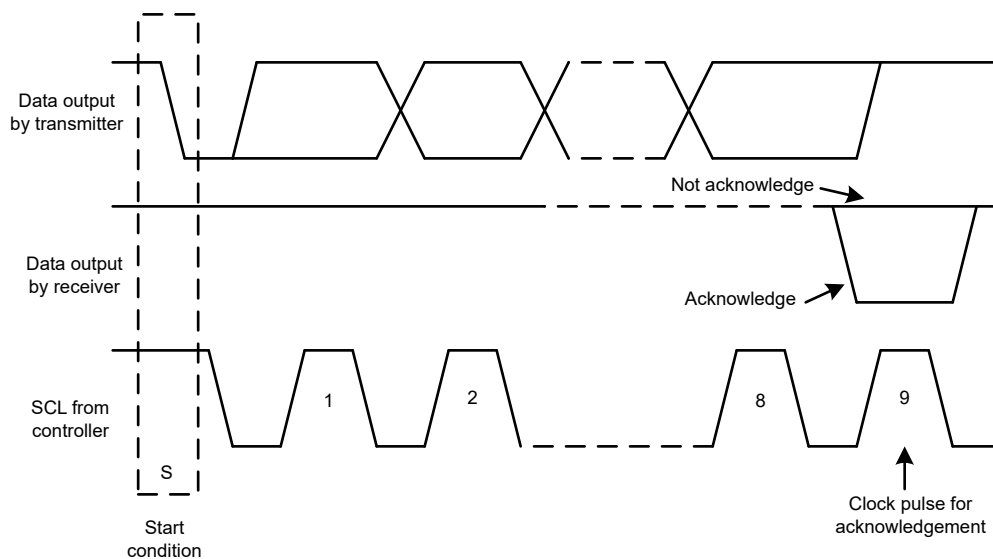
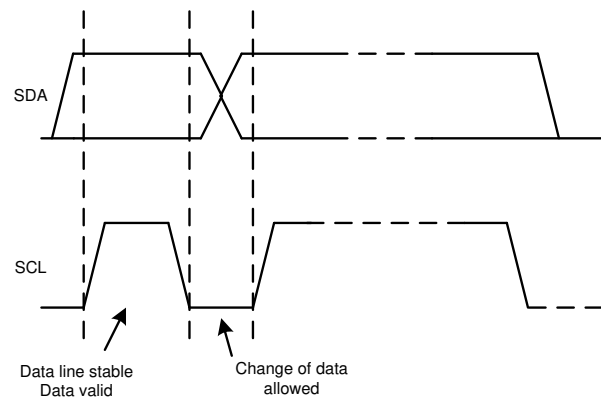

Figure 7-18. Acknowledge and Not Acknowledge on the I²C Bus
图 7-20. Bit Transfer on the I²C Bus
Other than specific timing signals, the I²C interface works with serial bytes. At the end of each byte, a ninth clock cycle generates and detects an acknowledge signal. An acknowledge is when the SDA line is pulled low during the high period of the ninth clock cycle. Figure 7-18 depicts a not-acknowledge, when the SDA line is left high during the high period of the ninth clock cycle.
2. The controller then generates the SCL pulses, and transmits the 7-bit address and the read/write direction bit (R/\overline{W}) on the SDA line. During all transmissions, the controller makes sure that data are valid. 图 7-20 shows that a valid data condition requires the SDA line to be stable during the entire high period of the clock pulse. All devices recognize the address sent by the controller and compare the address to the respective internal fixed address. Only the target device with a matching address generates an acknowledge by pulling the SDA line low during the entire high period of the 9th SCL cycle (see also 图 7-18). When the controller detects this acknowledge, the communication link with a target has been established.